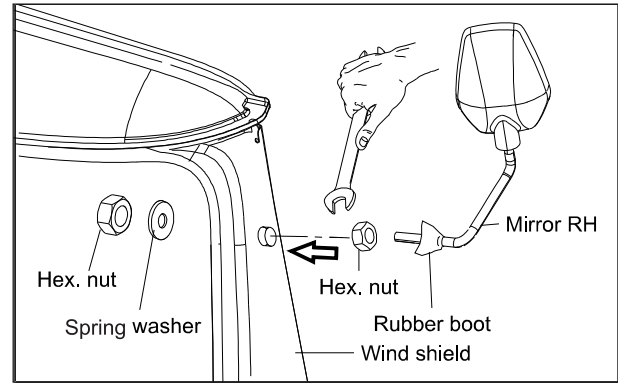

Fig. 9.24
- Insert the mirror assembly rear view into the bush provided on windshield frame on either side. (Fig. 9.24)
- Pull out the rubber boot. (Fig. 9.24)